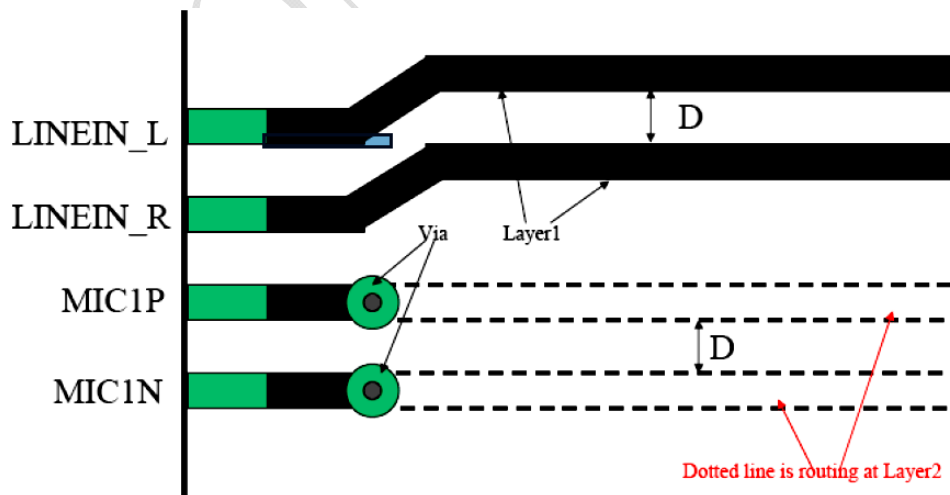

Figure 5-5. The special routing for **MIC** input signal ($D \leq 10$ mils)
- ii. The **MIC1P/MIC1N** and **MIC2P/MIC2N** input signals are more sensitive than the other signals. These two signals may route to the other layer if possible, and we can see that in Figure 5-5. In Figure 5-5, **LINE_IN_R/LINE_IN_L** those input signals is routing on Layer-1. But **MIC1P/MIC1N** and **MIC2P/MIC2N** input are routing on different Layer (Ex. Layer-2) between codec and phone jack input.